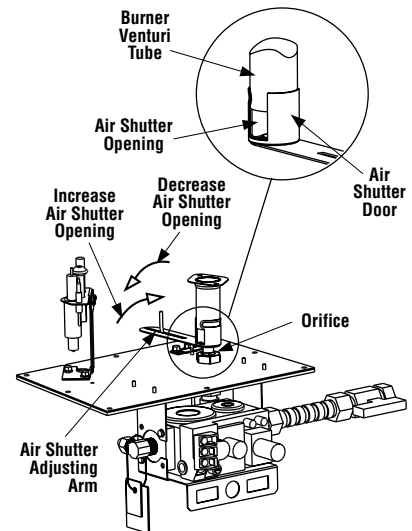

Figure 62
1. Refer to *Figures 59, 60 and 61* for proper flame appearance. To adjust the flame, rotate the adjustment rod toward the back or toward the front of the fireplace (rod located in the lower control area). Position the air shutter to the factory setting as shown in the table in *Figure 62*.